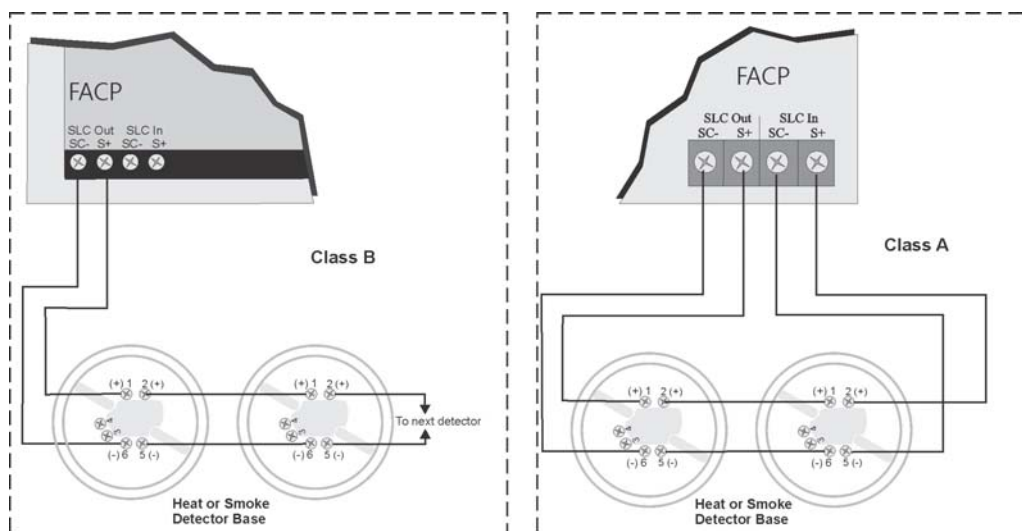

Figure 7.6 Heat or Smoke Detector Connection to the FACP (Class B)
1. Wire device bases as shown in Figure 7.6.